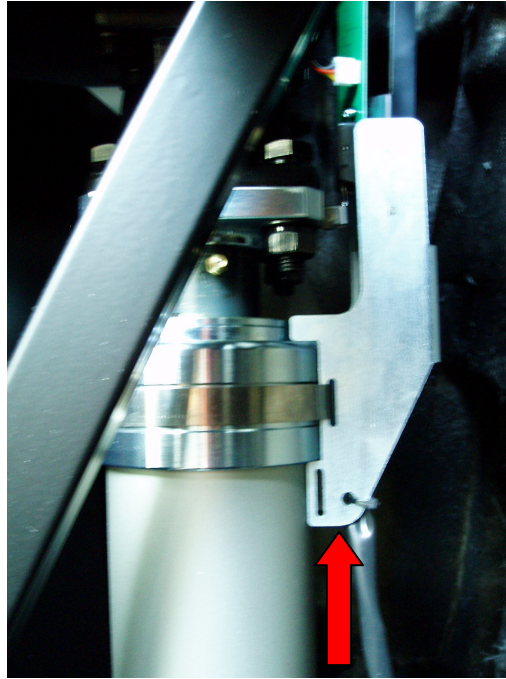

Fig. 10
2. Limit switch shall be installed after the actuator is installed. Push the bracket all the way up and position the limit switch at the center line of the universal joint plange. Fasten with a SUS bend.(Fig. 10)